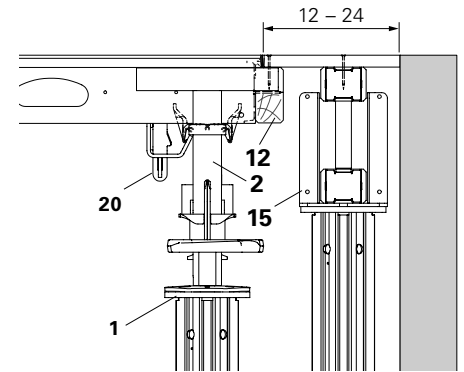

Fig. A5.38
1. Place Panel SDP (3) over the Main Beam SLT (2) and secure with Panel Wedge Clip (20).
2. Screw Filler Timber SPH (12) or timber on the panel.
3. Position additional prop with Cross-head (15) and formwork girder.
4. Install formlining (16) and secure with nails. (Fig. A5.38)